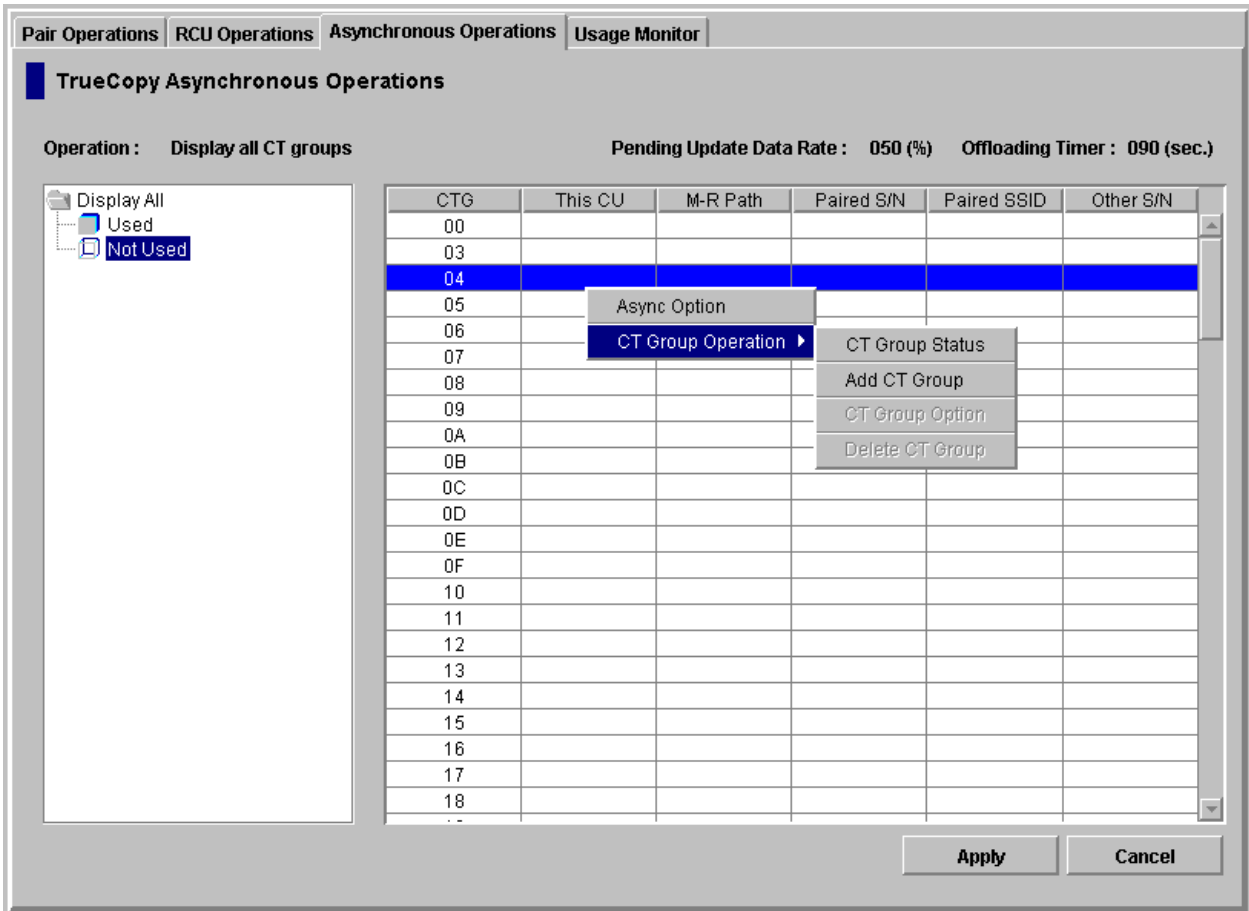

Figure 4.24 Pop-up Menu for the Asynchronous Operations Tab
3. Right-click on the selected item(s) to display the pop-up menu (see Figure 4.24):